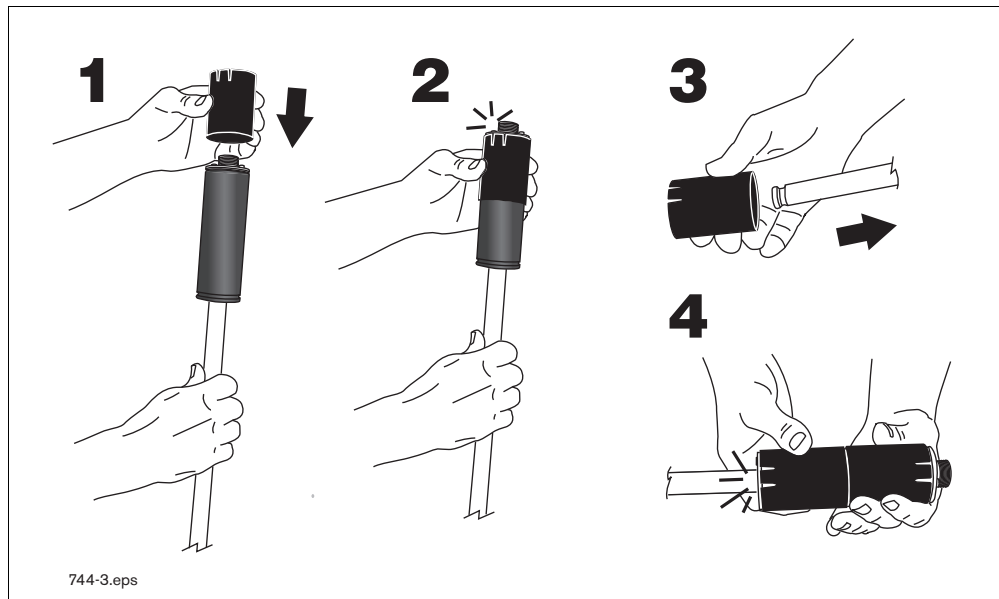

Figure 4. Installing Probe 2" Canister Spacers
2. Open the 2-inch Phase-Two Float Kit. Install the two 2-inch canister spacers onto the probe canister as shown in Figure 4.